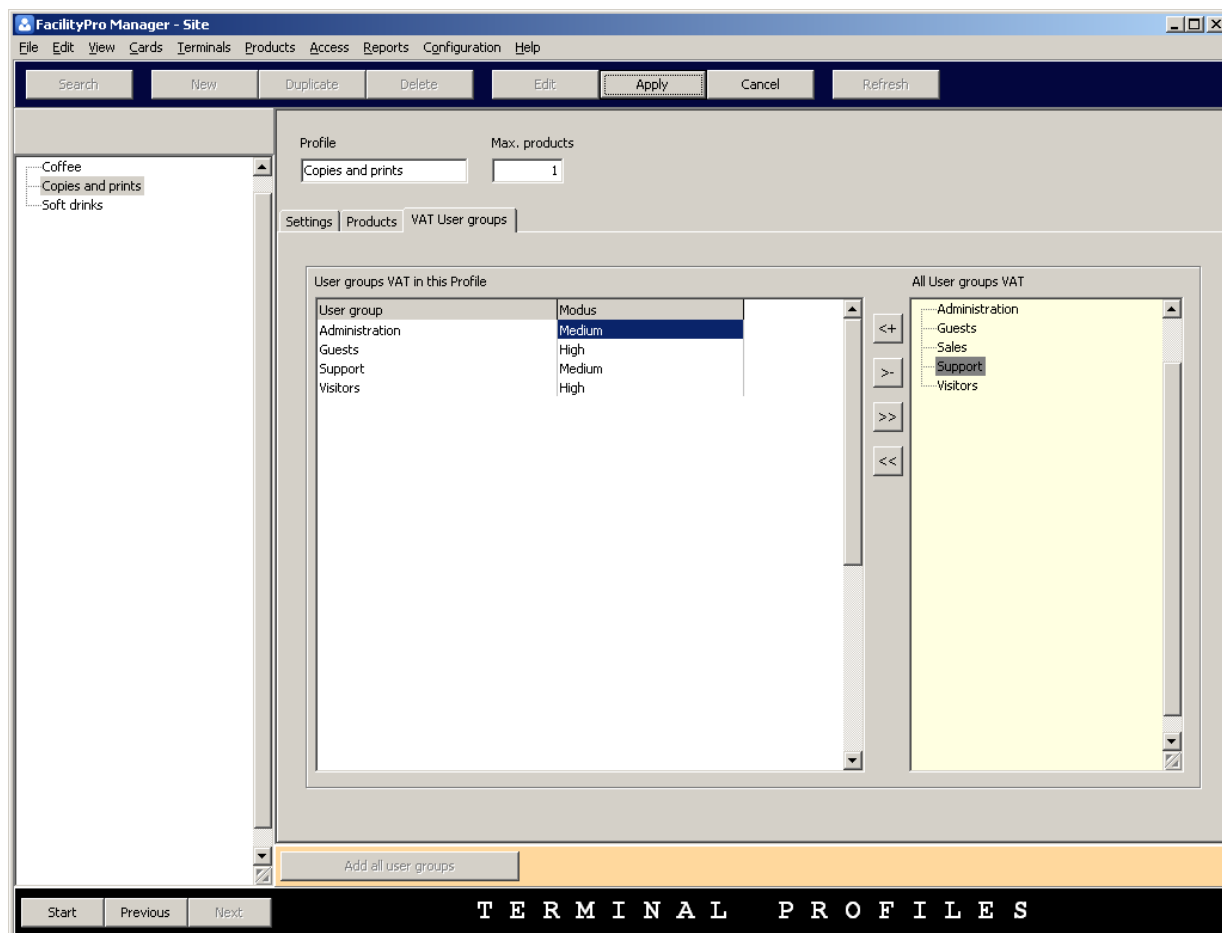

Figure 5-3 The tab 'VAT User groups' of the terminal profiles data screen
5. Click the tab 'VAT User groups'. You will see the tab 'VAT User groups' (Figure 5-3). On the right of the tab you will see a list of user groups known to FacilityPro Manager. On the left, you will see a list (which might be empty) of user groups to which specific VAT rates have previously been assigned for this terminal profile. The order in which user groups are shown in this list is of no consequence.